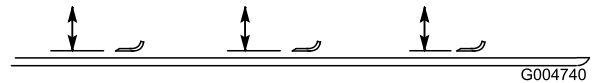

Figure 85
2. Rotate the blade until the ends face forward and backward (Figure 85). Measure from the inside of the cutting unit to the cutting edge at the front of the blade. Remember this dimension.